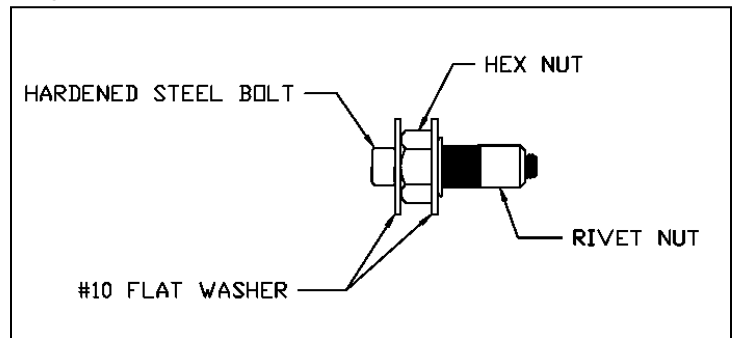

Figure 2
9. Place a #10 flat washer, hex nut, another #10 flat washer and rivet nut on black hardened steel bolt, shown in **Figure 2**, and place in drilled hole. Use a **7/16"** wrench to hold nut and **5/32"** hex bit to turn the hardened steel bolt until rivet nut is tightened down. (**Do not install with drill, use hand tools only**). Remove hardened steel bolt, flat washers and hex nut. Repeat in all four holes.